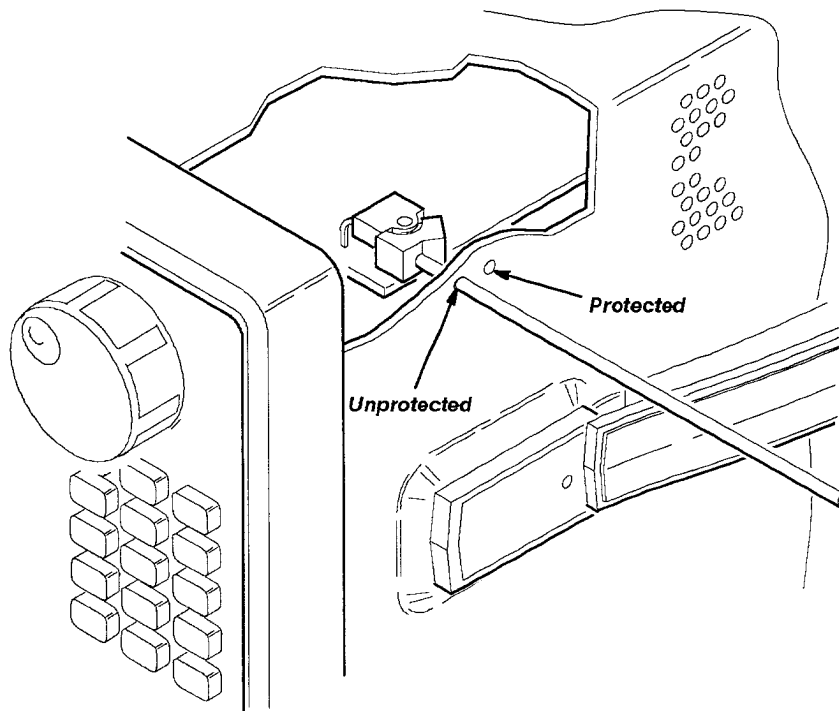

Figure 5-1: Accessing the Protection Switch
3. *Enable the adjustment constants to be written:* The protection switch that enables or disables the writing of new adjustment constants to non-volatile RAM (NVRAM) is accessed through one of two small holes in the oscilloscope chassis (see Figure 5-1).
- a. Locate the two small access holes on the right side of the oscilloscope cabinet near the front. (See Figure 5-1.)